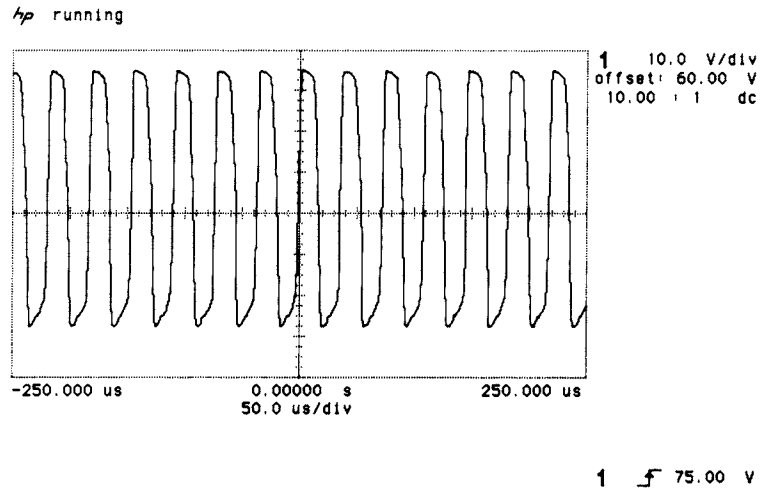

Figure 3-9. CRT Cut-Off Voltage
34. On the oscilloscope, adjust the channel 1 offset voltage as necessary to measure the peak-to-peak CRT cut-off voltage, V_{co} , at A1A3TP5. See Figure 3-9. This peak-to-peak voltage should be between 45–75 V_{p-p} . Note this voltage for use in step 39.